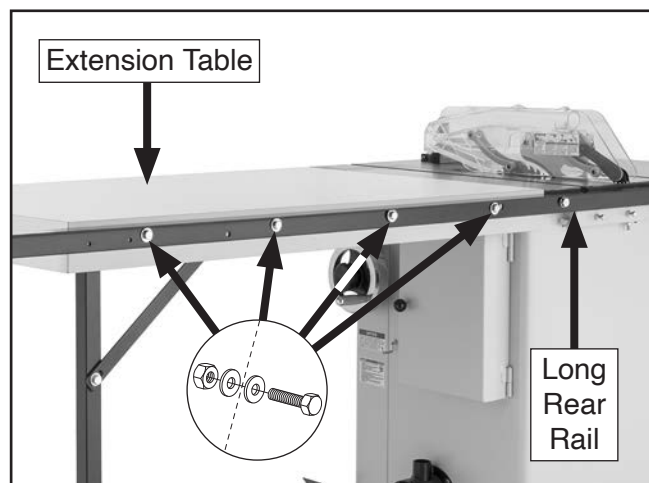

Figure 25. Extension table secured to long rear rail.
11. Thread (1) adjustable foot into bottom of each extension leg, then with help from an assistant, flip extension table upright and position it between long rails. Ensure holes in table align with holes in rails.
12. Secure extension table to long rear rail with (4) $\frac{3}{8}$ "-16 x $1\frac{3}{4}$ " hex bolts, (8) $\frac{3}{8}$ " flat washers, and (4) $\frac{3}{8}$ "-16 hex nuts (see **Figure 25**). Hand-tighten fasteners for now.